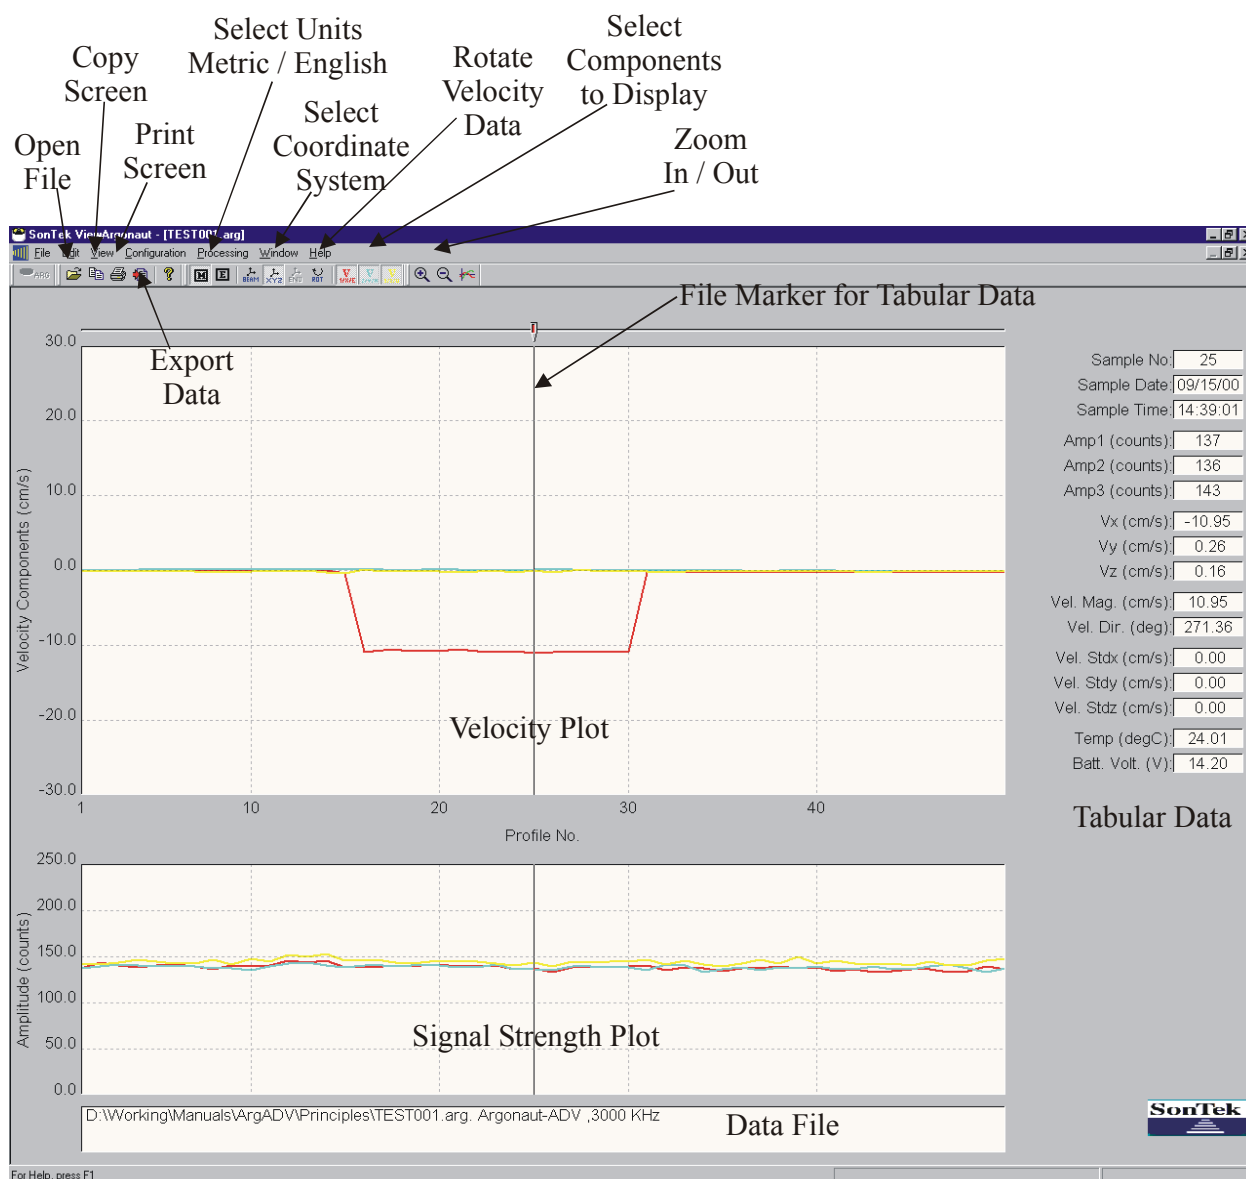

Figure 8 – ViewArgonaut PostProcessing Window
- The software will then plot the data as shown in Figure 8.
Figure 8 shows the Argonaut postprocessing screen with key features labeled.